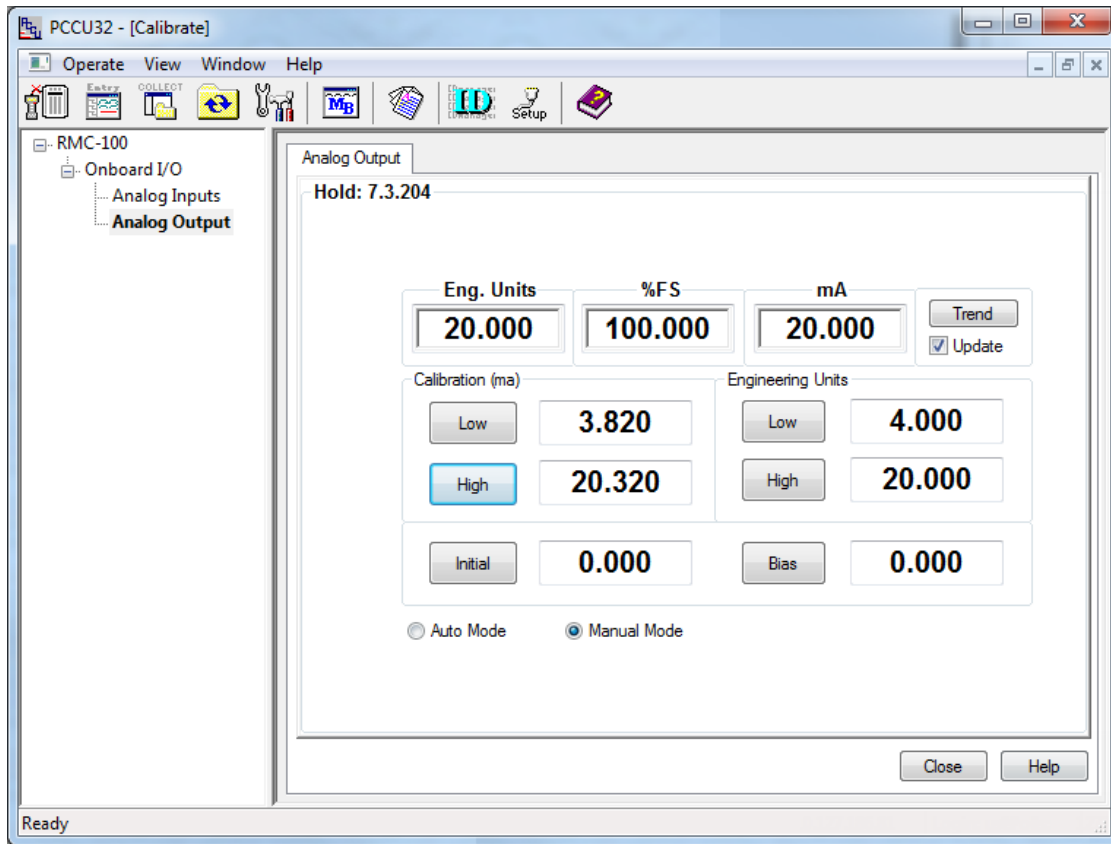

Figure 69: Calibrated AO example
14. When "Calibration Complete" displays, click **OK**. The Engineering Units, %FS, and mA fields should display full scale values (Figure 69).